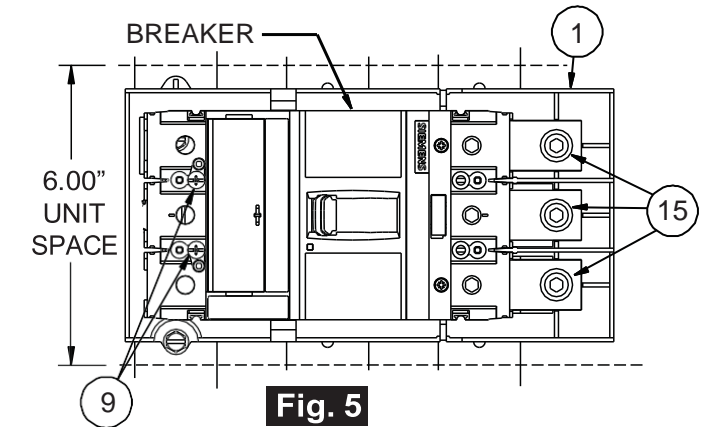

Fig. 5
11. Fasten the breaker to the Top Barrier using the pair of #8-32 x 3" screws from the Hardware Kit (Item 9). (Refer to Fig. 5)